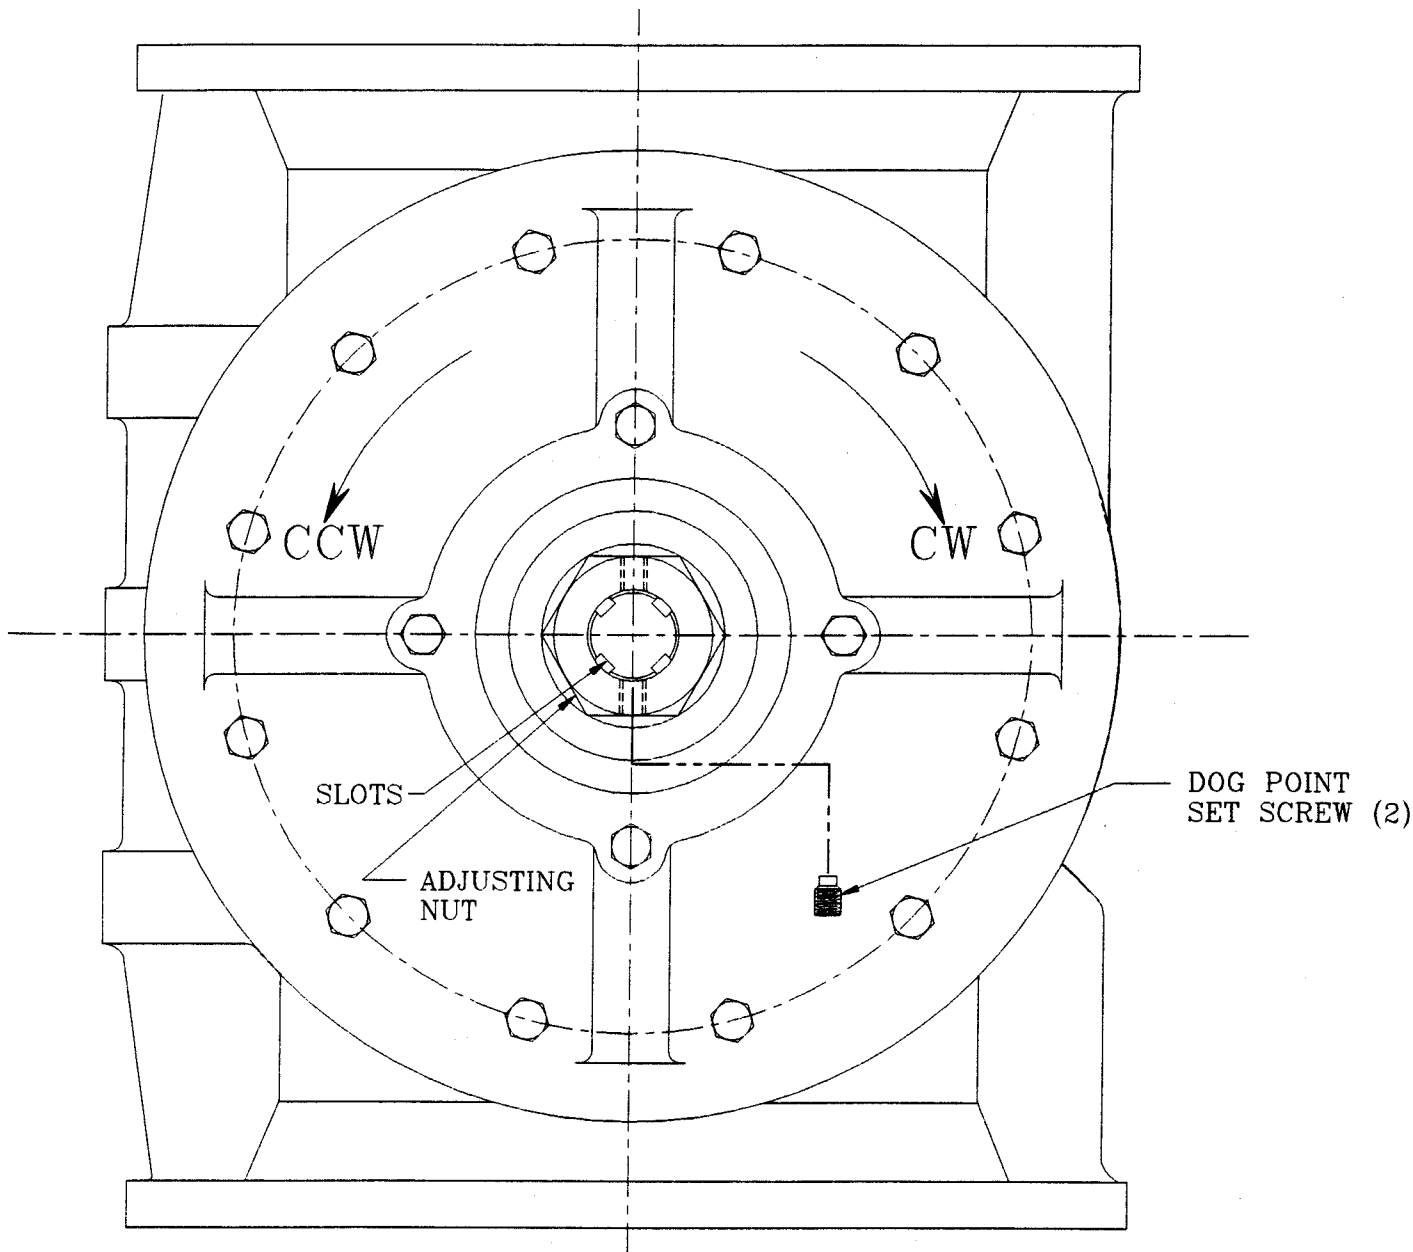

FIG. 2
- 5.) With a wrench on the hex part of the adjusting nut, turn the nut until the desired clearances are achieved by use of the feeler gauges. To open the clearances, turn the nut clockwise. To close the clearances turn the nut counter clockwise (see Fig. 2).